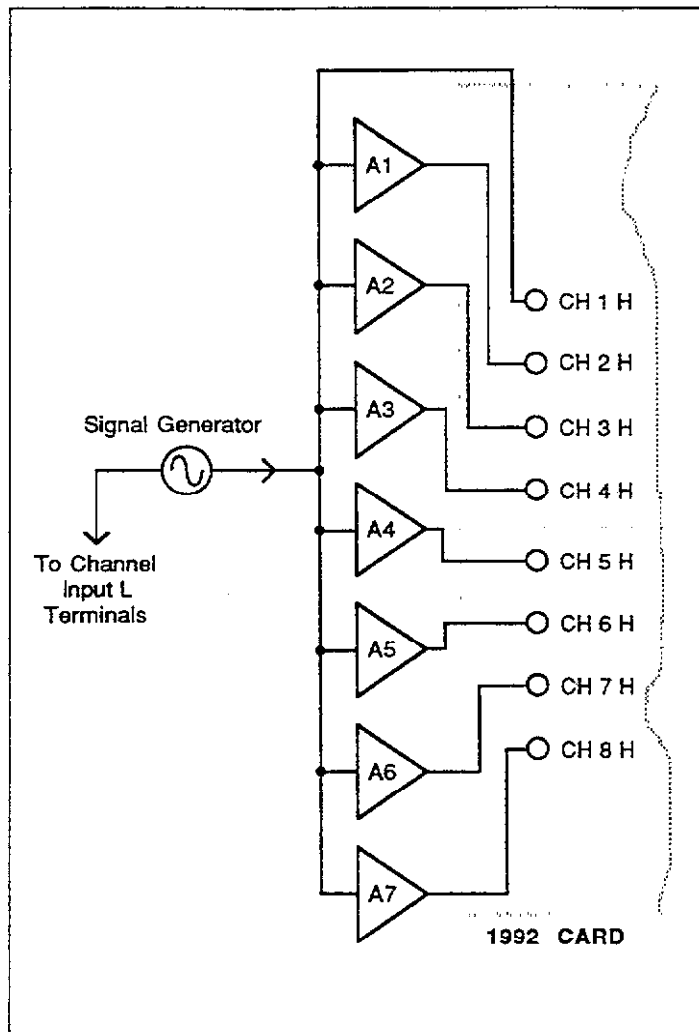

Figure 3-12. Amplifier Gain Test Configurations
The scanner can be used to simplify gain testing of amplifiers. As shown in Figure 3-12, a signal generator supplies a test signal to the inputs of all seven amplifiers being tested. Channel 1 of the scanner is connected directly to the signal generator, while channels 2 through 8 of the scanner are connected to the amplifier outputs.
3. Connect the equipment together, as shown in Figure 3-12.